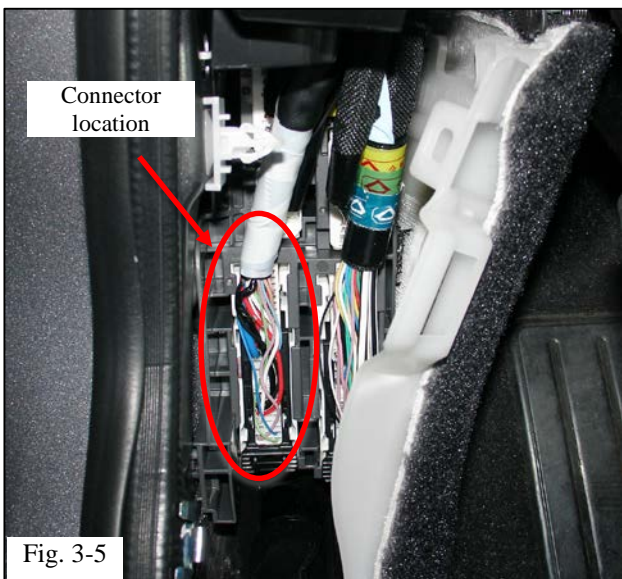

Fig. 3-5
- (g) Locate the 67 pin connector on the driver's side kick panel connector block (Fig. 3-5).